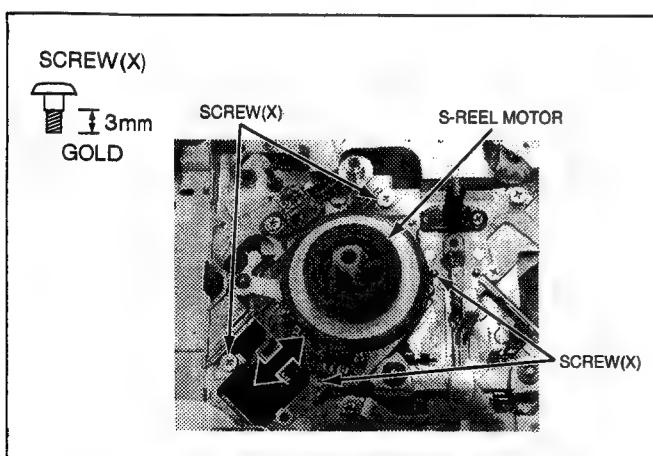

Fig. M-39
- Fig. M-39 Unscrew 4 screws (X) and remove the S Reel Table with 2 shafts.